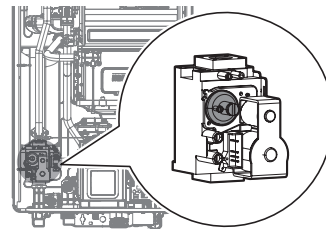

Figure 10
- c. Fully open a hot water fixture and set the water heater to operate at 1-stage MIN mode (refer to “Setting the Operation Mode” on page 105). Measure the offset value at low fire and compare it to the values in Table 3. If the offset value is out of range, the gas valve set screw will need to be adjusted. If adjustment is necessary, locate the set screw as shown in Figure 10. Using a 5/32 in or 4 mm Allen wrench, turn the set screw no more than 1/4 turn clockwise to raise or counterclockwise to lower the offset value.